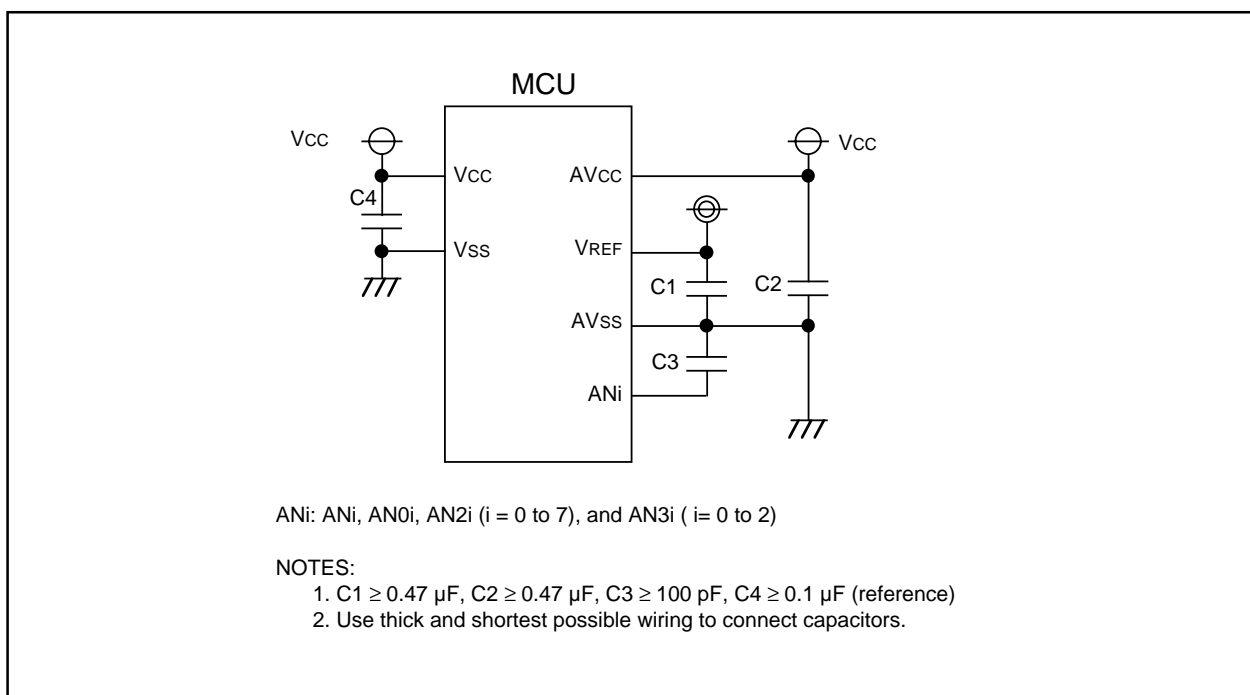

Figure 20.5 Use of capacitors to reduce noise
3. To prevent noise-induced device malfunction or latchup, as well as to reduce conversion errors, insert capacitors between the AVCC, VREF, and analog input pins (AN_i, AN0_i, AN2_i(i=0 to 7)) each and the AVSS pin. Similarly, insert a capacitor between the VCC pin and the VSS pin. **Figure 20.5** is an example connection of each pin.